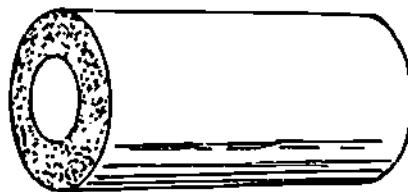

Figure 36-4. Flex-Rubber Insulation
6. Flex-rubber insulation is made of a tough, flexible rubber (Figure 36-4). It has good insulating and cementing qualities, excellent weather-aging qualities, and prevents sweating of cold water lines. It is also resistant to water and fire, and is well suited for covering tubing in refrigeration and cold water lines. It comes in varied lengths with a wall thickness of 9.5 mm to 19 mm and fits pipe up to 100 mm diameter.